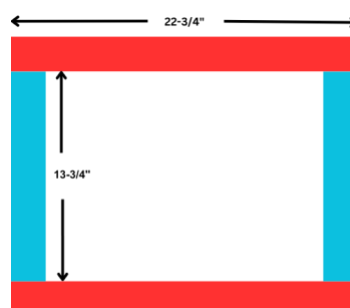

Figure 1
- With uncut face, face down, lay uncut edge of each piece to form top frame per figure 1 below: